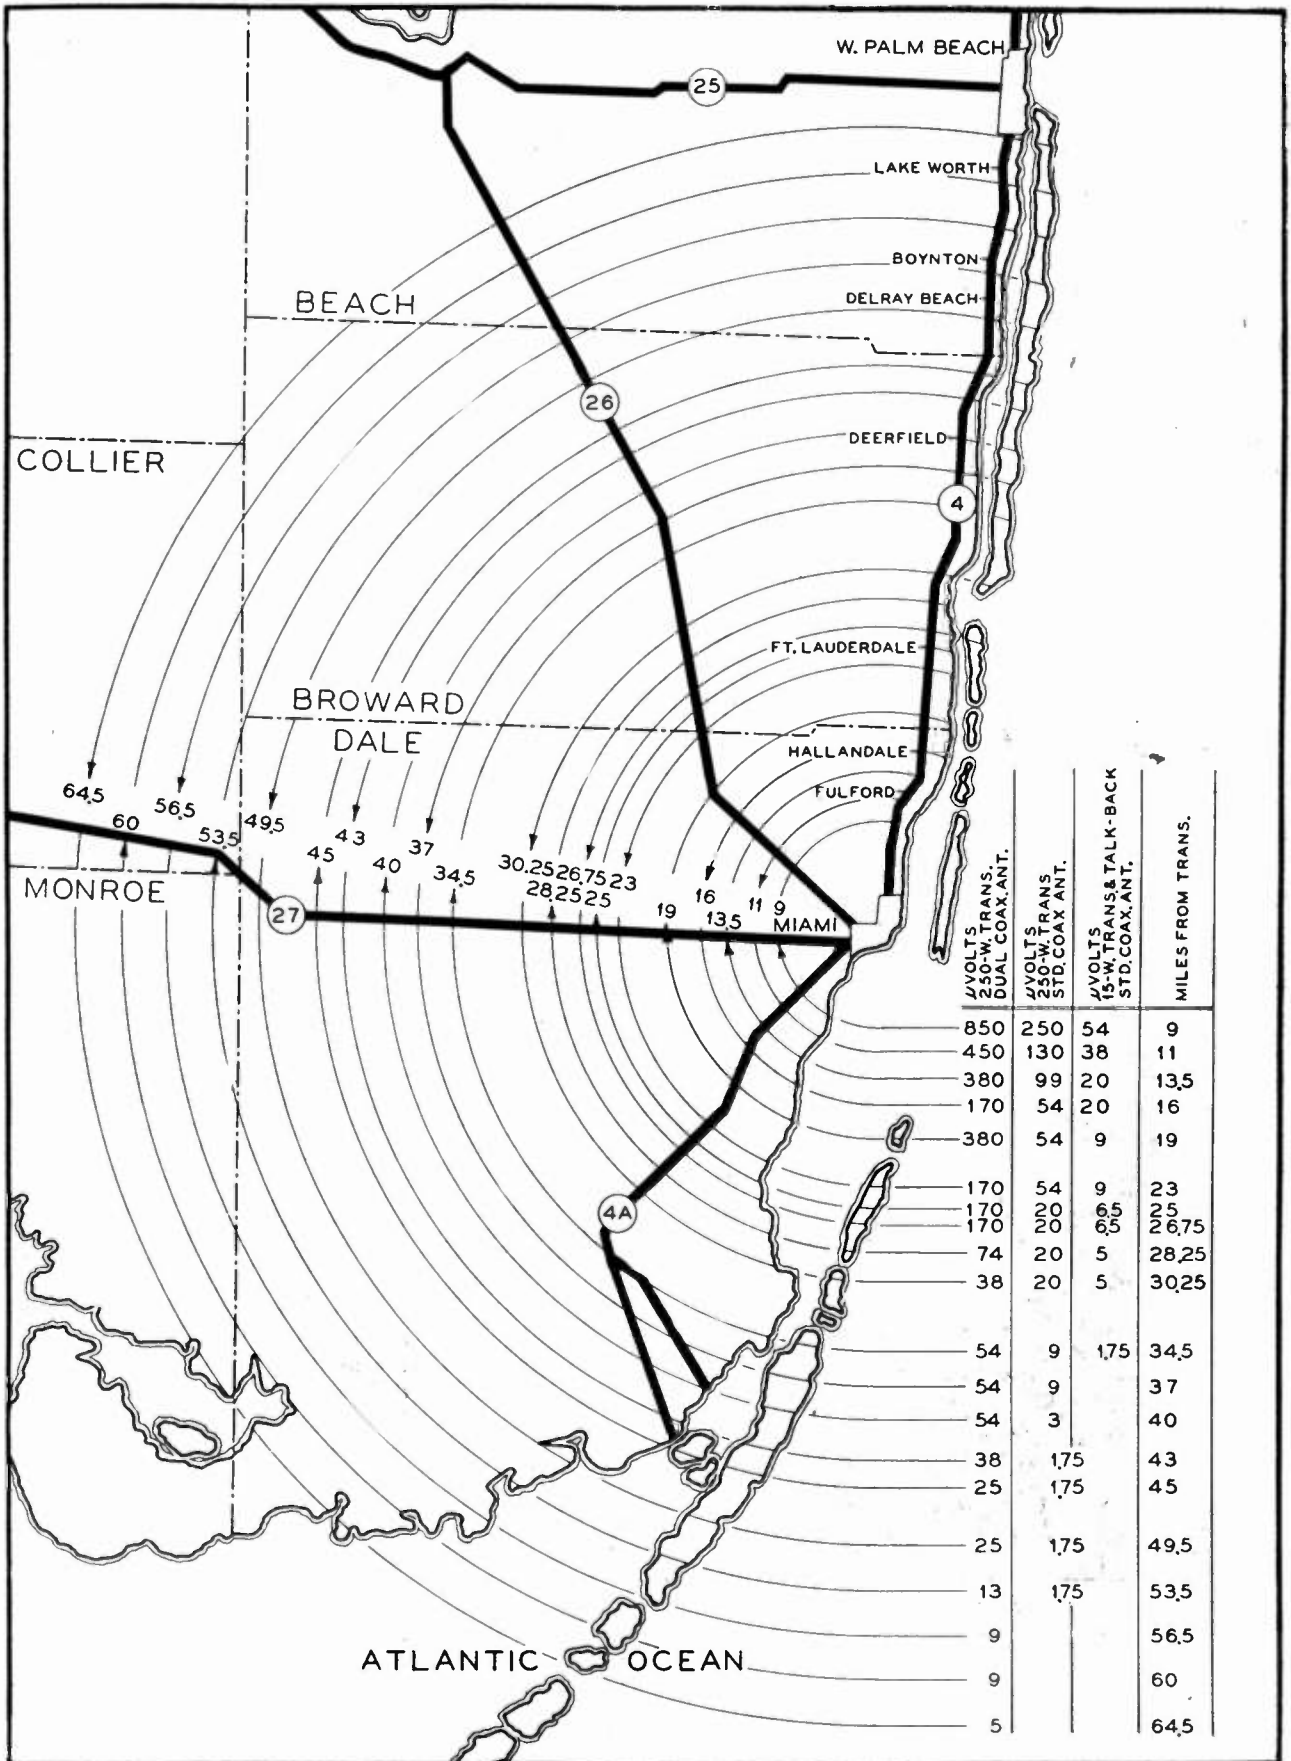

FIG. 2. COVERAGE OBTAINED WITH SINGLE AND DUAL COAXIAL ANTENNAS AT HEADQUARTERS, AND TALK-BACK RANGE
**Coverage** ★ The map in Fig. 2 gives the results of a very careful and complete survey we made and was later checked by FCC and FBI engineers. Tests were made in one of our patrol cars, using a calibrated receiver. On the highways marked on the map, the measured signal strength at any given distance was almost absolutely uniform. That is due in part, I suppose, to the fact that the entire area is perfectly flat, but I think the main reason lies in the
In the table at the left of Fig. 2, the right hand column shows the distance from the transmitter. Next are readings